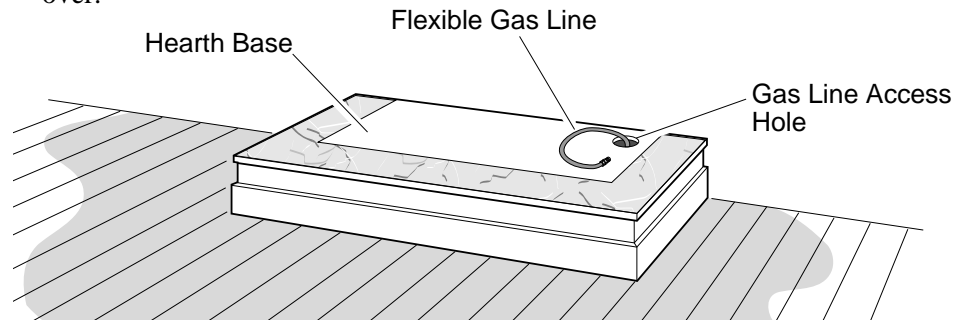

Figure 8 - Placing Hearth Base Accessory Against Wall
3. Place hearth base accessory against wall at installation location. Cut an access hole in hearth top to run flexible gas line to fireplace (see Figure 8). Make sure to locate access hole so cabinet mantel will cover it when installed. **Note:** You can secure base to floor using wood screws. Countersink screw heads and putty over.